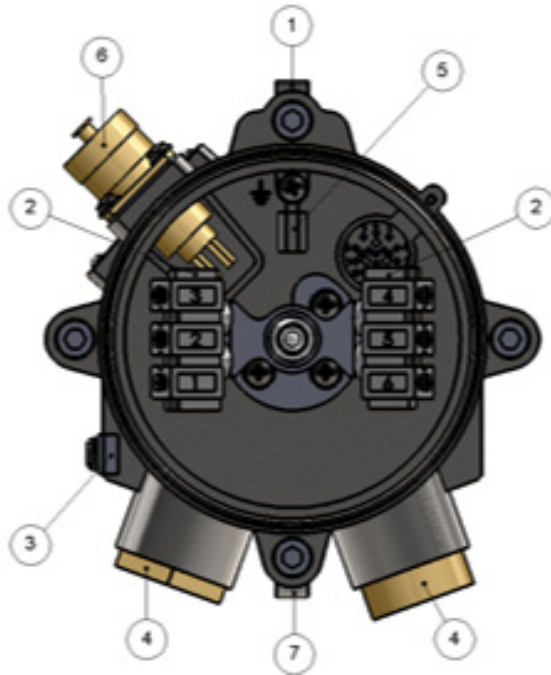

Figure 6-3: Detector with Cover Removed
3. Remove the protective plug mounted on the Detector conduit/cable entry inlet; pull the wires through the Detector inlet (item 4, Figure 6-3: Detector with Cover Removed). Use a $\frac{3}{4}$ " - 14NPT or M25x1.5 explosion-proof conduit connection / cable gland to assemble the cable / explosion-proof conduit to the Detector.
4. Connect the wires to the required terminals (item 2, Figure 6-3:) according to the wiring diagram. See 6.8. Flash Source Wiring and Figure A-1: Detector Wiring Terminal, Figure A-3: 0-20mA Sink 4-Wire, Figure A-4: 0-20mA Non-isolated Sink 3-Wire, and Figure A-5: 0-20mA Source 3-Wire.
5. Connect the grounding wire to the ground screw outside Detector (item 3, Figure 6-3:). The Detector must be well grounded to Earth Ground.